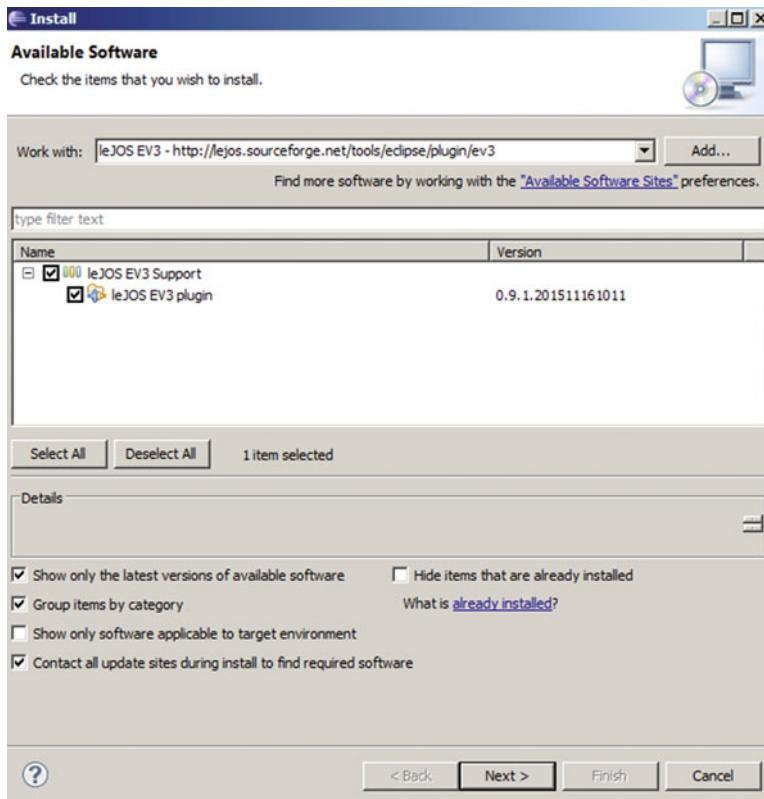

Figure 1-22. Step 3 of installing the leJOS EV3 plug-in
- Click OK. You should see a new item in the main dialog box, as shown in Figure 1-22. Place a check mark in the box next to the new item, and click the *Next* button.